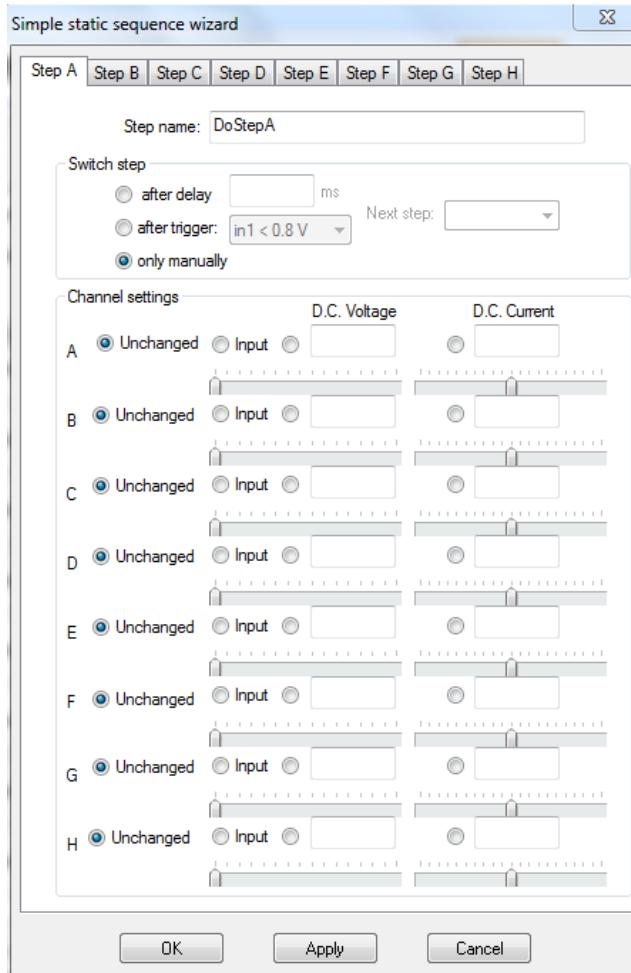

Figure 4. Simple Sequence Wizard Window.
2. Select **Tools > Simple sequence wizard**. The Wizard interfaces contain tabs for each step (*Figure 4*). When you launch a wizard the settings for Step A will be displayed. Click on any step's tab to view that step's settings.